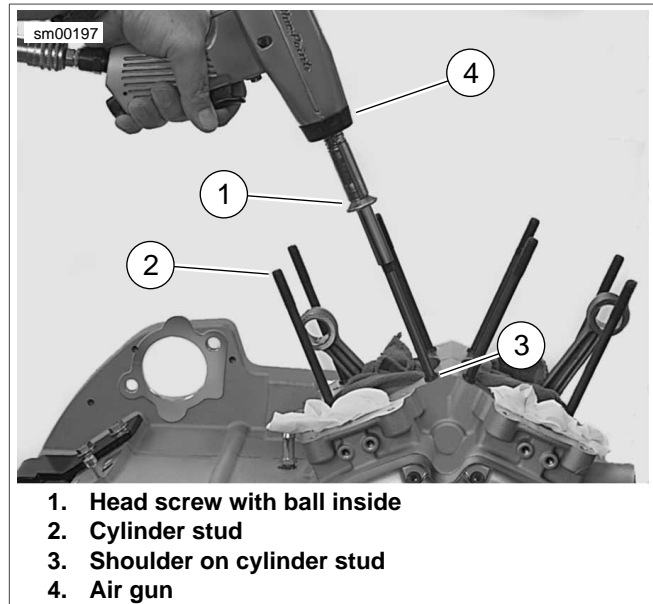

Figure 3-141. Cylinder Studs
11. See Figure 3-141. Install cylinder studs.